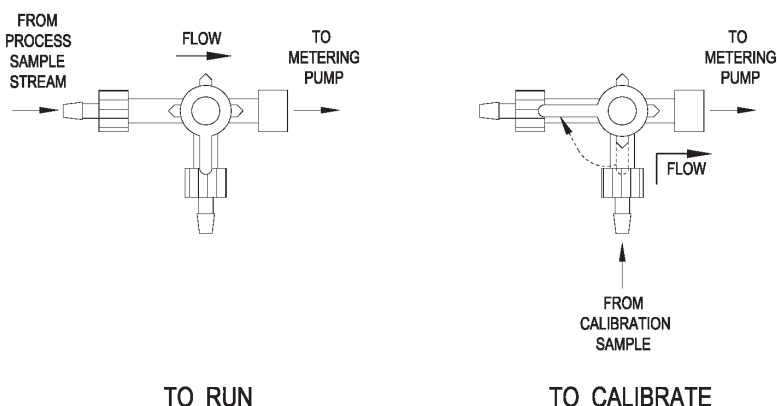

Figure 4.3
3. Allow the sample solution to pump through the sample line for a minimum of 10 minutes using the 3-way inlet valve (see Figure 4.3).
3. Allow the demand free water to pump through the sample line for a minimum of 10 minutes using the 3-way inlet valve (see Figure 4.3).